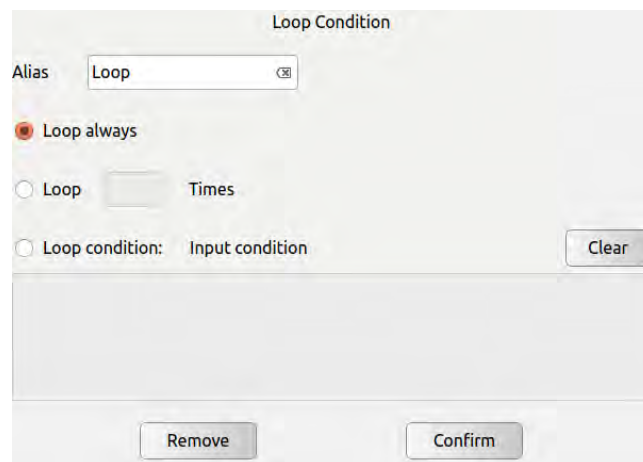

Figure 11.8 Loop
- 1 Choose **【Move】** node, Condition Tabs will automatic pop-up, as shown in Figure 11.8. Users can configure the proceeding status of the Move command.